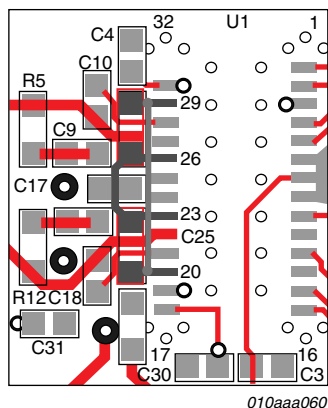
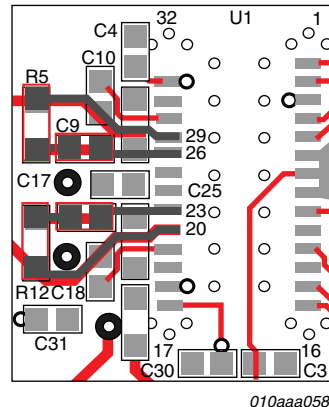

Fig 30. HF decoupling supply C8, C25
Fig 33. RC output snubber network
An RC snubber network (see schematic Section 3.10) reduces the voltage ringing at the power stage output (pin 22 and pin 27) after a voltage transition. A proper implementation of this RC snubber will improve the EMC performance (see Figure 33).
The bottom side of the double-layer PCB is used to place the SMD components, including the TDA8932B/33(B) and the majority of the signal tracks (see Figure 30 to Figure 33).
- Place the High Frequency (HF) supply decoupling capacitor close to the IC (see Figure 30).
- Place the RC output snubber network close to the IC (see Figure 33).
- Place the HF decoupling capacitor DREF voltage close to the IC (see Figure 33).